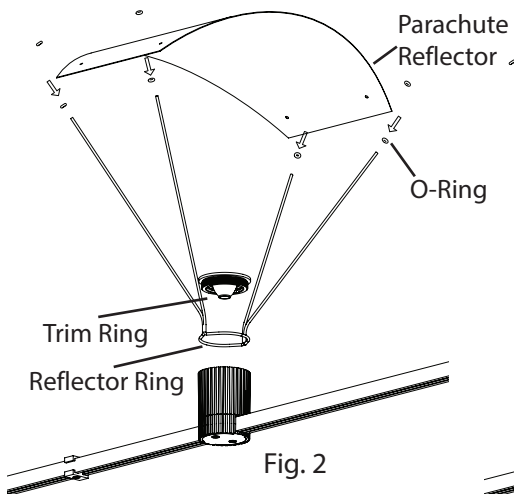

Fig. 2
1. Place a rubber **O-Ring** on each arm on the Parachute reflector trim. (Fig. 2)